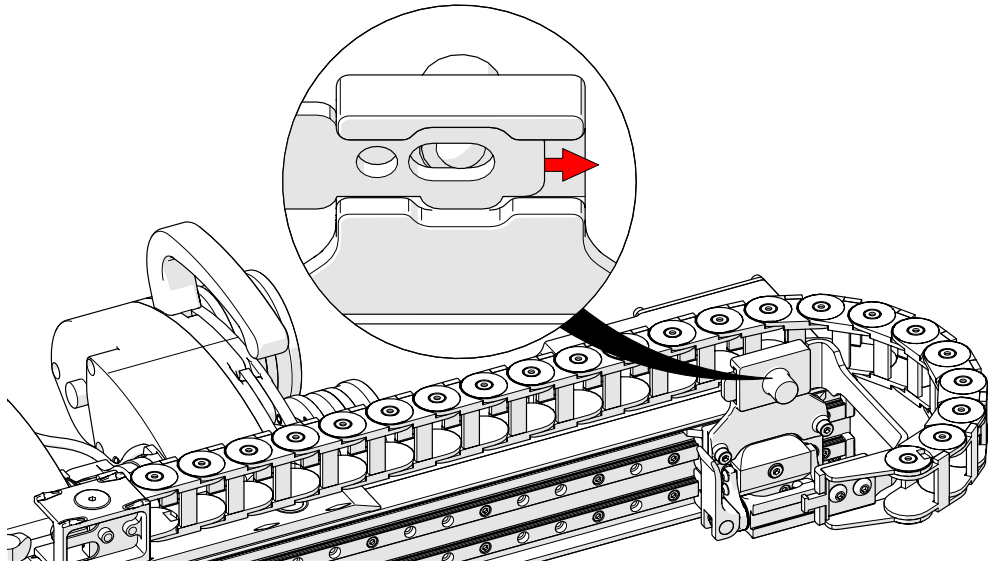

Fig. 108 - Slide bracket attaching to carriage
3. Slide the cable tray bracket until it locks in place (Fig. 108).